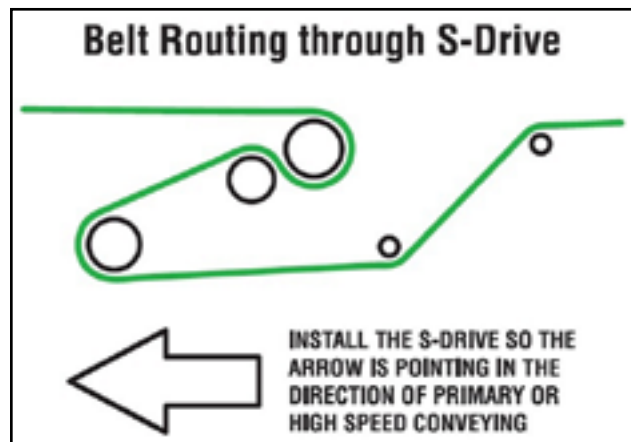

Fig 14 - S-Drive belt threading diagram
26. Once both ends are at the S-Drive, feed one end through the drive rollers; as shown in Figures 14 and 15.